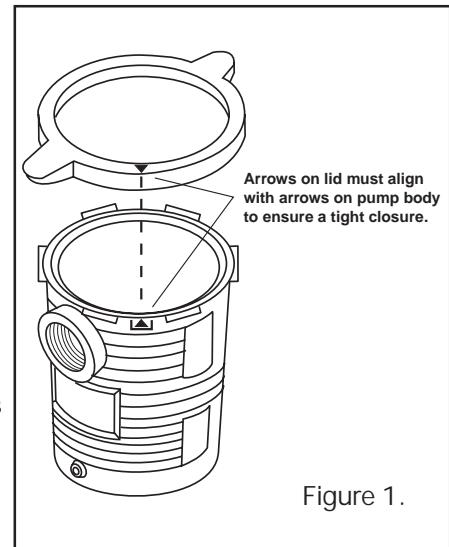

Figure 1.
8. Seat the clamp and lid and turn it clockwise. Turn until the lid is clamped onto the pot, see Figure 1. Hand-tighten until the indicator arrow on the volute is within the range indicated on the clamp ring.